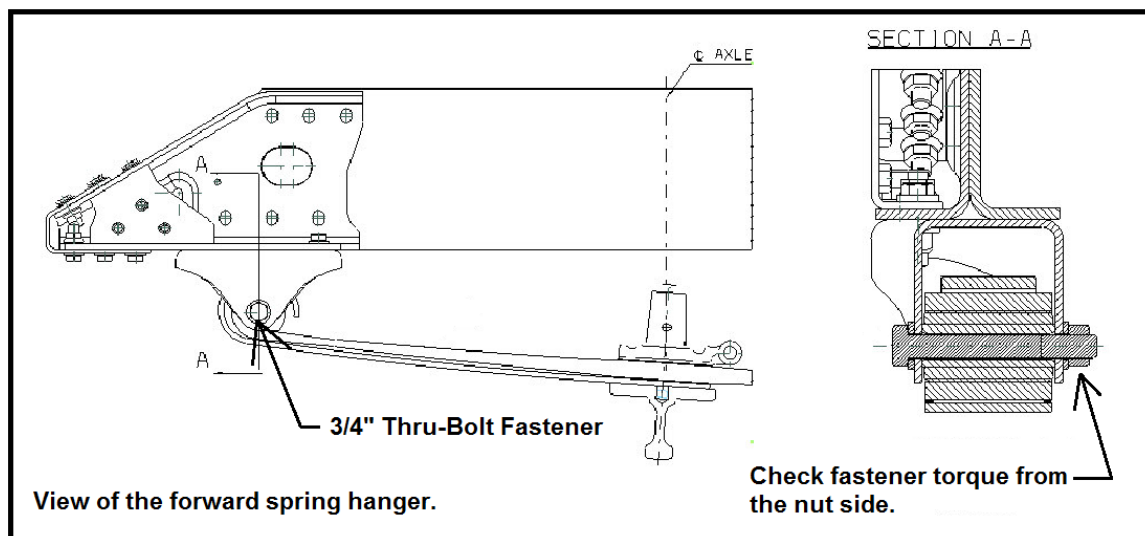

Fig. 1
Check the steer axle suspension thru-bolt torque as outlined in the following procedure. Reference Fig. 1 & 2.
2. Check the static torque at the two (2) front spring eye fasteners and four (4) rear shackle bracket fastener locations.
3. Set the torque wrench to **200** foot pounds and check the torque at all six locations as shown in Figure 1. & 2. Use a calibrated torque wrench and a backing wrench to hold the fastener, check the torque at the nut in a tightening direction.